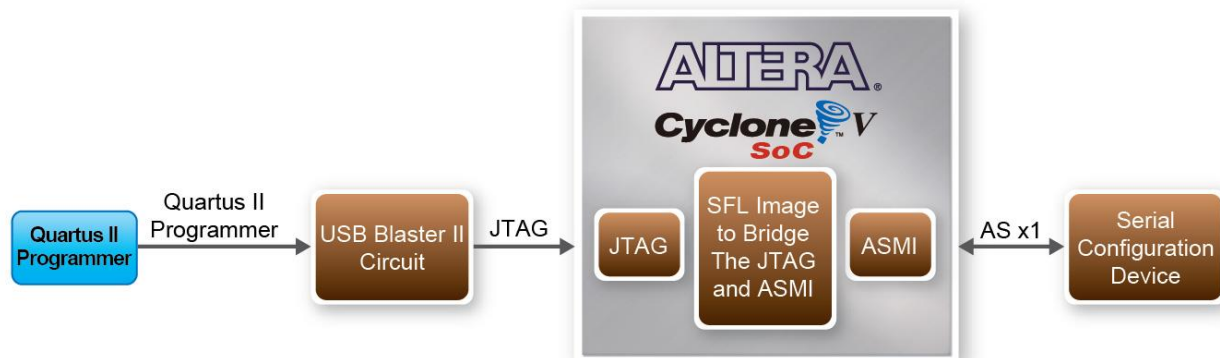

Figure 3-9 Programming a serial configuration device with SFL solution
Users need to use Serial Flash Loader (SFL) to program the serial configuration device via JTAG interface. The FPGA-based SFL is a soft intellectual property (IP) core within the FPGA that bridges the JTAG and Flash interfaces. The SFL Megafunction is available in Quartus II. **Figure 3-9** shows the programming method when adopting SFL solution.